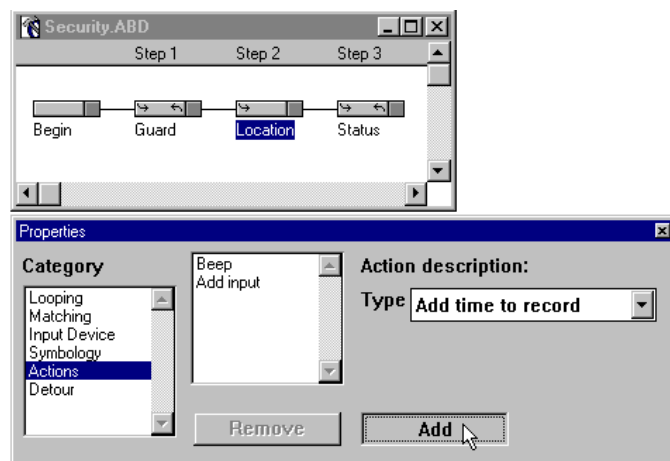
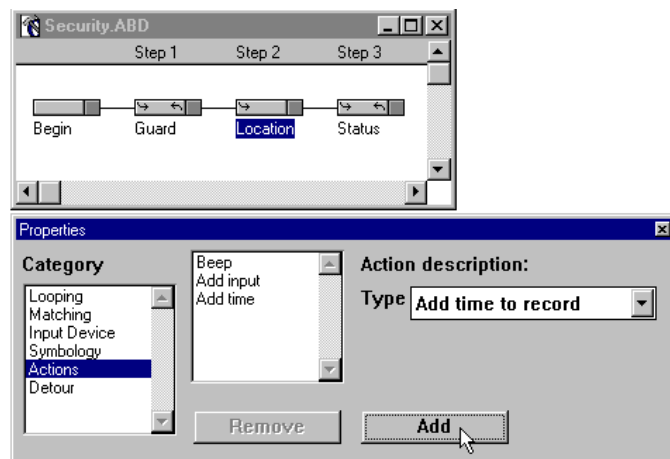

Figure 3-39 Actions Property - Add Action to Action List
Figure 3-40 Actions Property - Action Added to Action List
35. Click **Add** (Figure 3-39) to add the **Add time to record** action to the action list (Figure 3-40).